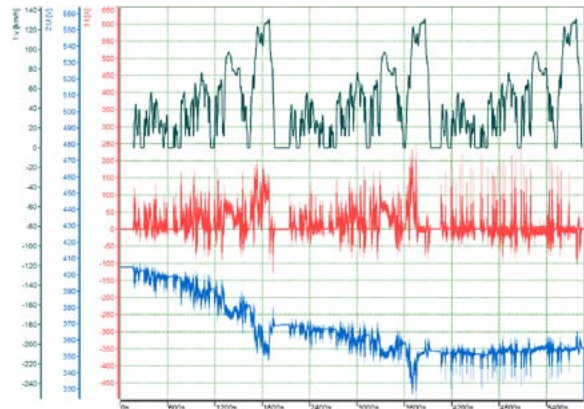
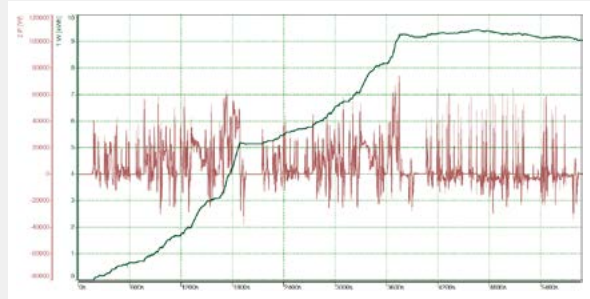

Fig. 2: Battery voltage U (blue), current I (red) and WLTP speed profile (green) for the class-3 driving cycle
Fig. 4: Power P (red) and energy consumption W (green) of a plug-in hybrid vehicle according to WLTP drive cycles.
Figure 2 shows the battery Voltage (U), the Current (I) and the speed (v) measured during several repeated drive cycles for a plug-in hybrid vehicle. The first test cycle was carried out during purely electrical propulsion. The battery was discharged at the end of the second cycle. Finally, the last repetition was carried out with an empty battery. The voltage of the fully charged battery decreases during the initial run from 405 V to 353 V and recovers only to 355 V in the last run due to regeneration. The current signal shows that at times almost 200 A were reached in the "extra high" part. The regeneration can easily be detected by negative currents. One challenge is that the raw values do not allow direct determination of electric power consumption. The measurement data must be used to calculate the consumed energy according to the speed, ideally in real time for continuous monitoring. Therefore the data must also be available with high resolution.
Figure 4 shows the effective power (P) and the accumulated electrical consumption (W) for the measurement shown in Fig. 2. The power correlates with the acceleration of the drive cycle and contains consistently short peaks, both in motor and regeneration modes. The recorded actuation was up to 75 kW and the recuperation was only -38 kW. The first purely electric run was used to calculate a consumption of 5.14 kWh. This corresponds to approx. 22.1 kWh per 100 km. The second run could not be completed under pure electric propulsion and the energy consumption decreased accordingly to 4.04 kWh. In the last cycle, the battery was empty except for the energy recovered from the braking energy recovery system. The energy balance shows that the battery was charged at -0.13 kWh during the last run by recovery.